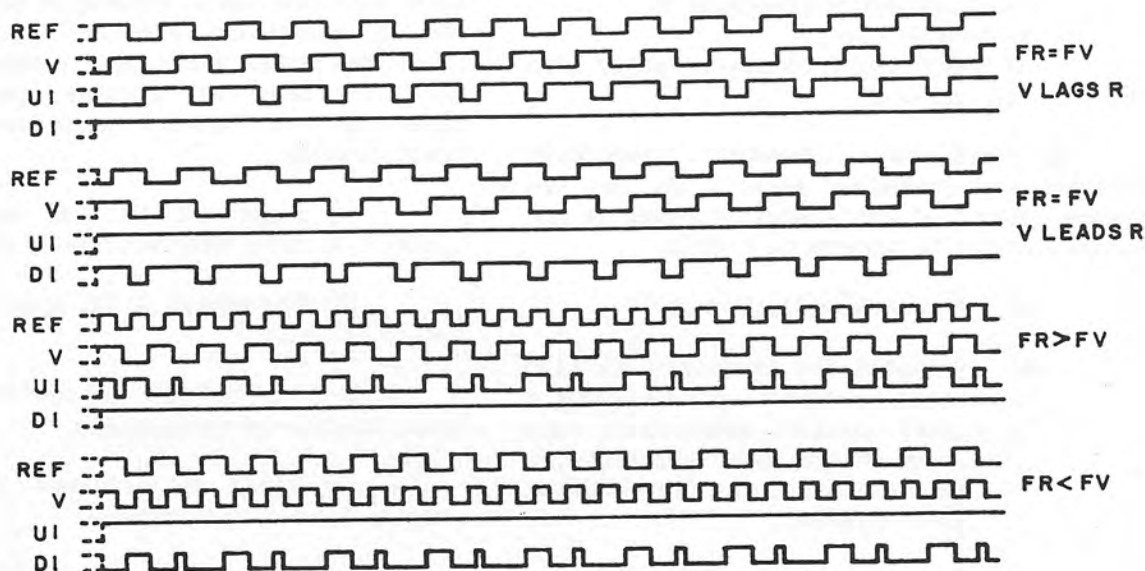

Figure 5-21. Phase Detector Timing Diagram
(3) 3rd lo synthesizer fault isolation. The fault isolation procedures include tests to aid in isolating a problem to a defective stage or circuit. Additional data in paragraph 5-6s(3)(d), will aid in tracing the fault to a defective component or connection. Ensure the following inputs to the 3rd lo synthesizer circuitry are correct. If not, check the time base circuits. Refer to time base (A5A1A2) paragraph 5-6t.
- (d) Observe the input (pins 1 and 3) and output (pins 2 and 13) voltages of U22 and compare them to figure 5-21. If a difference exists, replace U22. A normal value for the output (pin 8) is 2.0 to 3.0 Vdc.
- (f) If problems lead to the vco, see the vco circuit description, paragraph 3-33c(2) and troubleshoot that component.
- 4 Phase detector U12. Check for 10 kHz signal at pin 1 of U12. If incorrect or no signal, troubleshoot the time base circuits. Compare inputs (pins 1 and 3) and outputs (pins 2 and 13) to figure 5-21 of the 1st lo troubleshooting test.
- 5 If the signals at pins 1 and 3 of U6 both appear correct, compare its outputs at pins 2 and 13 with those of figure 5-21. If these appear correct, the problem must be in the amplifier section of U6 pins 8 and 9 and its connection to the vco.
(4) 2nd lo synthesizer supplementary fault isolation data. The following data is to be used with the tests described above as an aid in correcting receiver malfunctions. After the problem has been resolved, check the 2nd lo synthesizer for normal operation by repeating the checkout procedure in paragraph 5-6u(2).